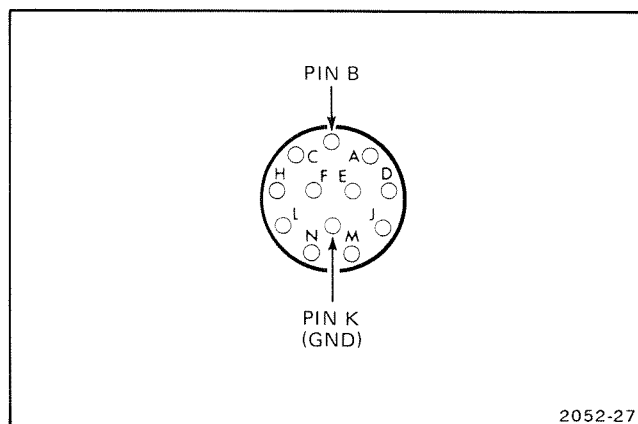

Fig. 6-3. Pins B and K on INPUT connector.
a. Connect P6302 Current Probe to INPUT or connect a 3.0 ohm resistor between pins M and N on AM 503 INPUT connector (see Fig. 6-3).